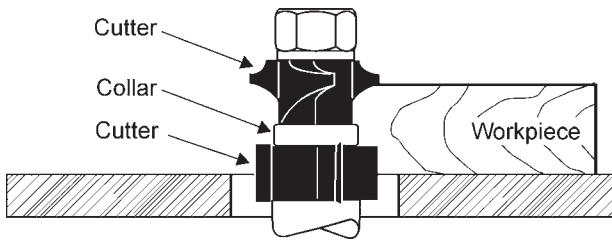

FIGURE 24
3. Using the collar between two cutters has the advantages and disadvantages of the first two procedures, and is frequently used where both edges of the work are to be molded; see Figure 24.